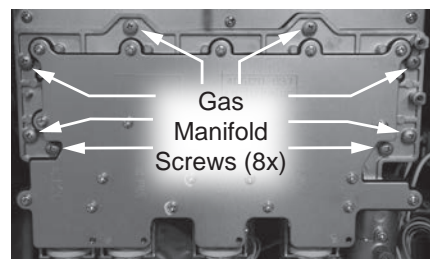

Figure 159 - Removing gas manifold from old primary heat exchanger
- 52 Locate the gas manifold on the old primary heat exchanger. Remove the eight screws securing the gas manifold and place them aside in a safe place for reinstallation. See Figure 159.